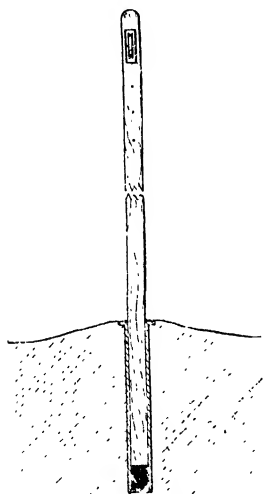

Fig. 201.—Clothes-post Fitted in Pipe let into Ground.
hollow end of 3 in. or 4 in., which is filled up with boiled pitch and creosote oil (tar will do as well); allow this to cool and set, and then pour some down the pipe, well surrounding the pole (see Fig. 201). It is as well to cut a hole in the top of the post and fix a galvanised pulley in it, running on an iron pin which goes through the post. By using a wire line instead of a rope, which soon rots, fastened by a loop fixed to a hooked nail at back of post, a satisfactory job can be made of it. On the post for lowering the line put three nails, on either of which the loop can be fixed; it can then be drawn up tight and looped on the lower nail. Other devices will suggest themselves. The following, for instance, has advantages: At the top of the post fix an iron hook A (Fig. 202) with nut and washer B.
**Bottle Corks: How to Remove.**—For removing a cork that has fallen right into a bottle a string loop is often used; insert the loop, invert the bottle, and the cork being in a likely position, pull the string. The appliance shown by Fig. 201 is made